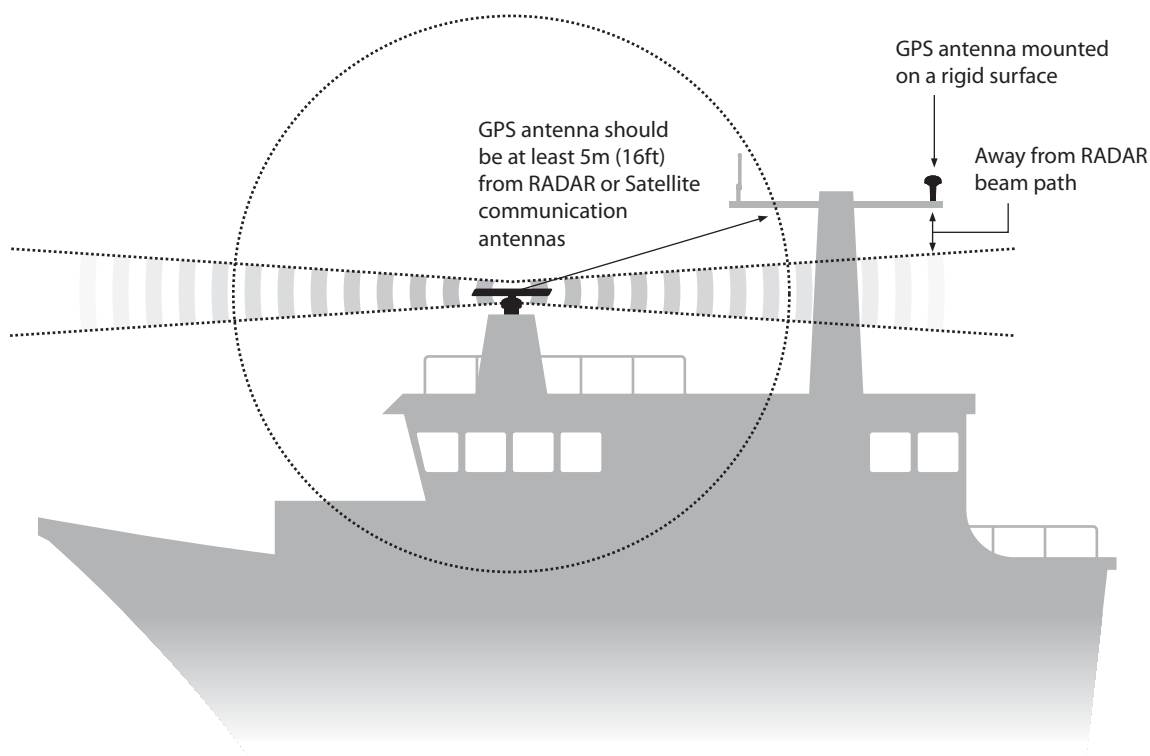

Figure 39 GPS antenna location
- The GPS antenna should be mounted as high as possible, however it is not recommend the antenna is mounted on a top of a high mast where the motion of the vessel will cause the antenna to swing and potentially reduce the accuracy of the GPS position. See Figure 39 for guidance.